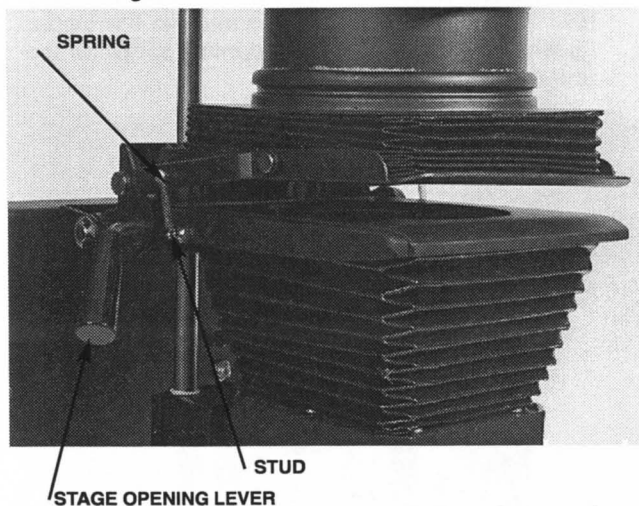

Figure 15
1. Unhook lower end of left and right springs from studs (see Fig. 15).
(See Figs. 15 and 16)